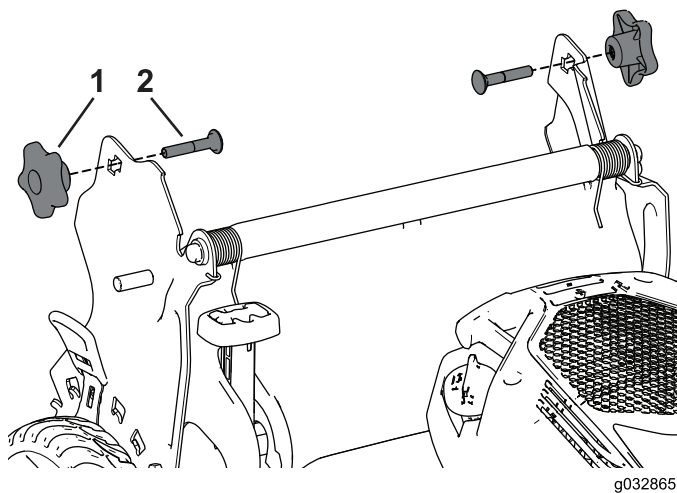

Figure 33
3. Insert the carriage bolt (with the bolt head toward the inside) through the handle bracket and the upper hole in the handle end. Ensure that the square edges of each carriage bolt fits into the upper or lower square hole in its related handle bracket (Figure 33).